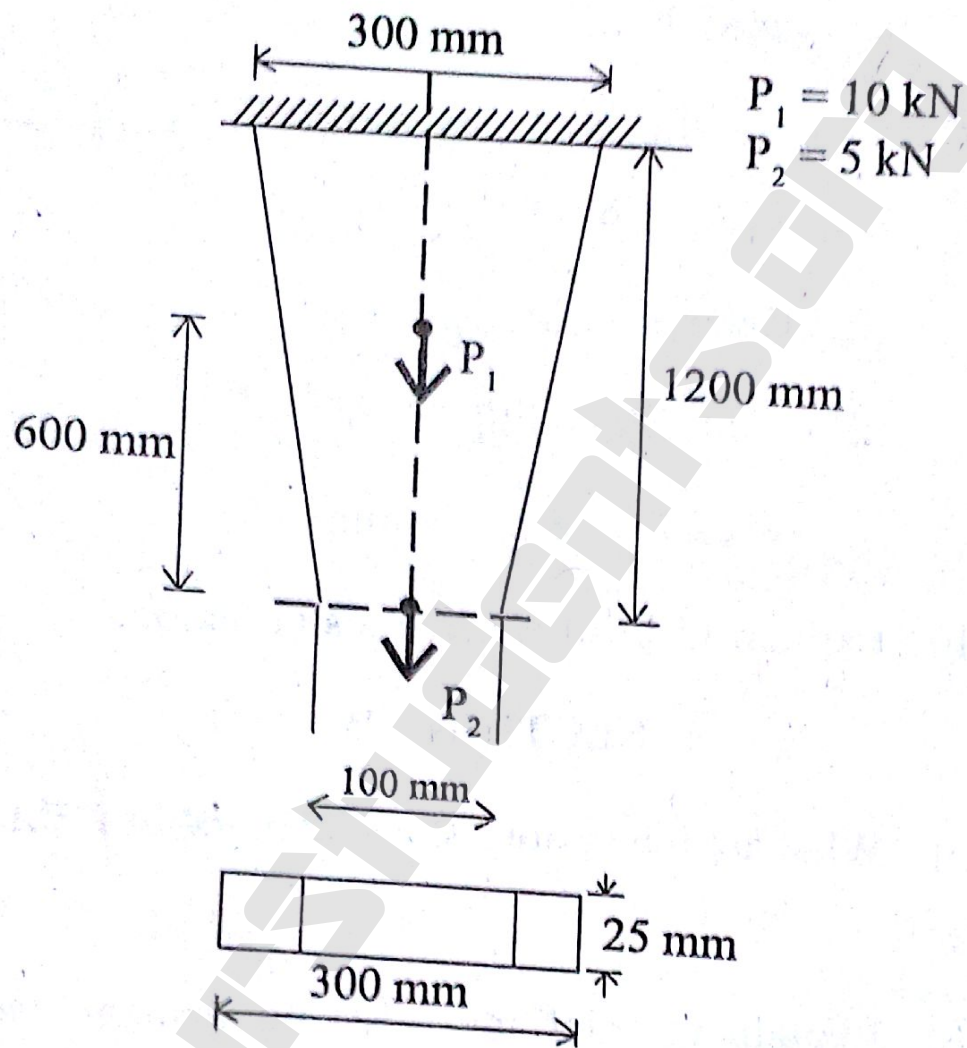

Fig. 2, Q. 7
7. Figure 2 shows a thin plate having uniform thickness $t = 25$ mm. Modulus of elasticity $E = 2 \times 10^5$ N/mm². In addition to self weight it is subjected to two point loads as shown. The density $\rho = 7.86 \times 10^{-6}$ gm/mm³.